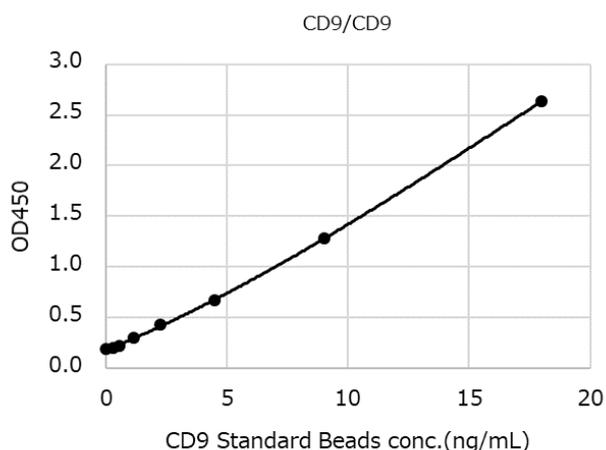

Fig.1 Example of Standard curve for CD9 Standard Beads.
14. Create a standard curve for the CD9 protein by plotting the mean absorbance (y axis) against the CD9 Standard concentration (x axis) (Fig. 1).